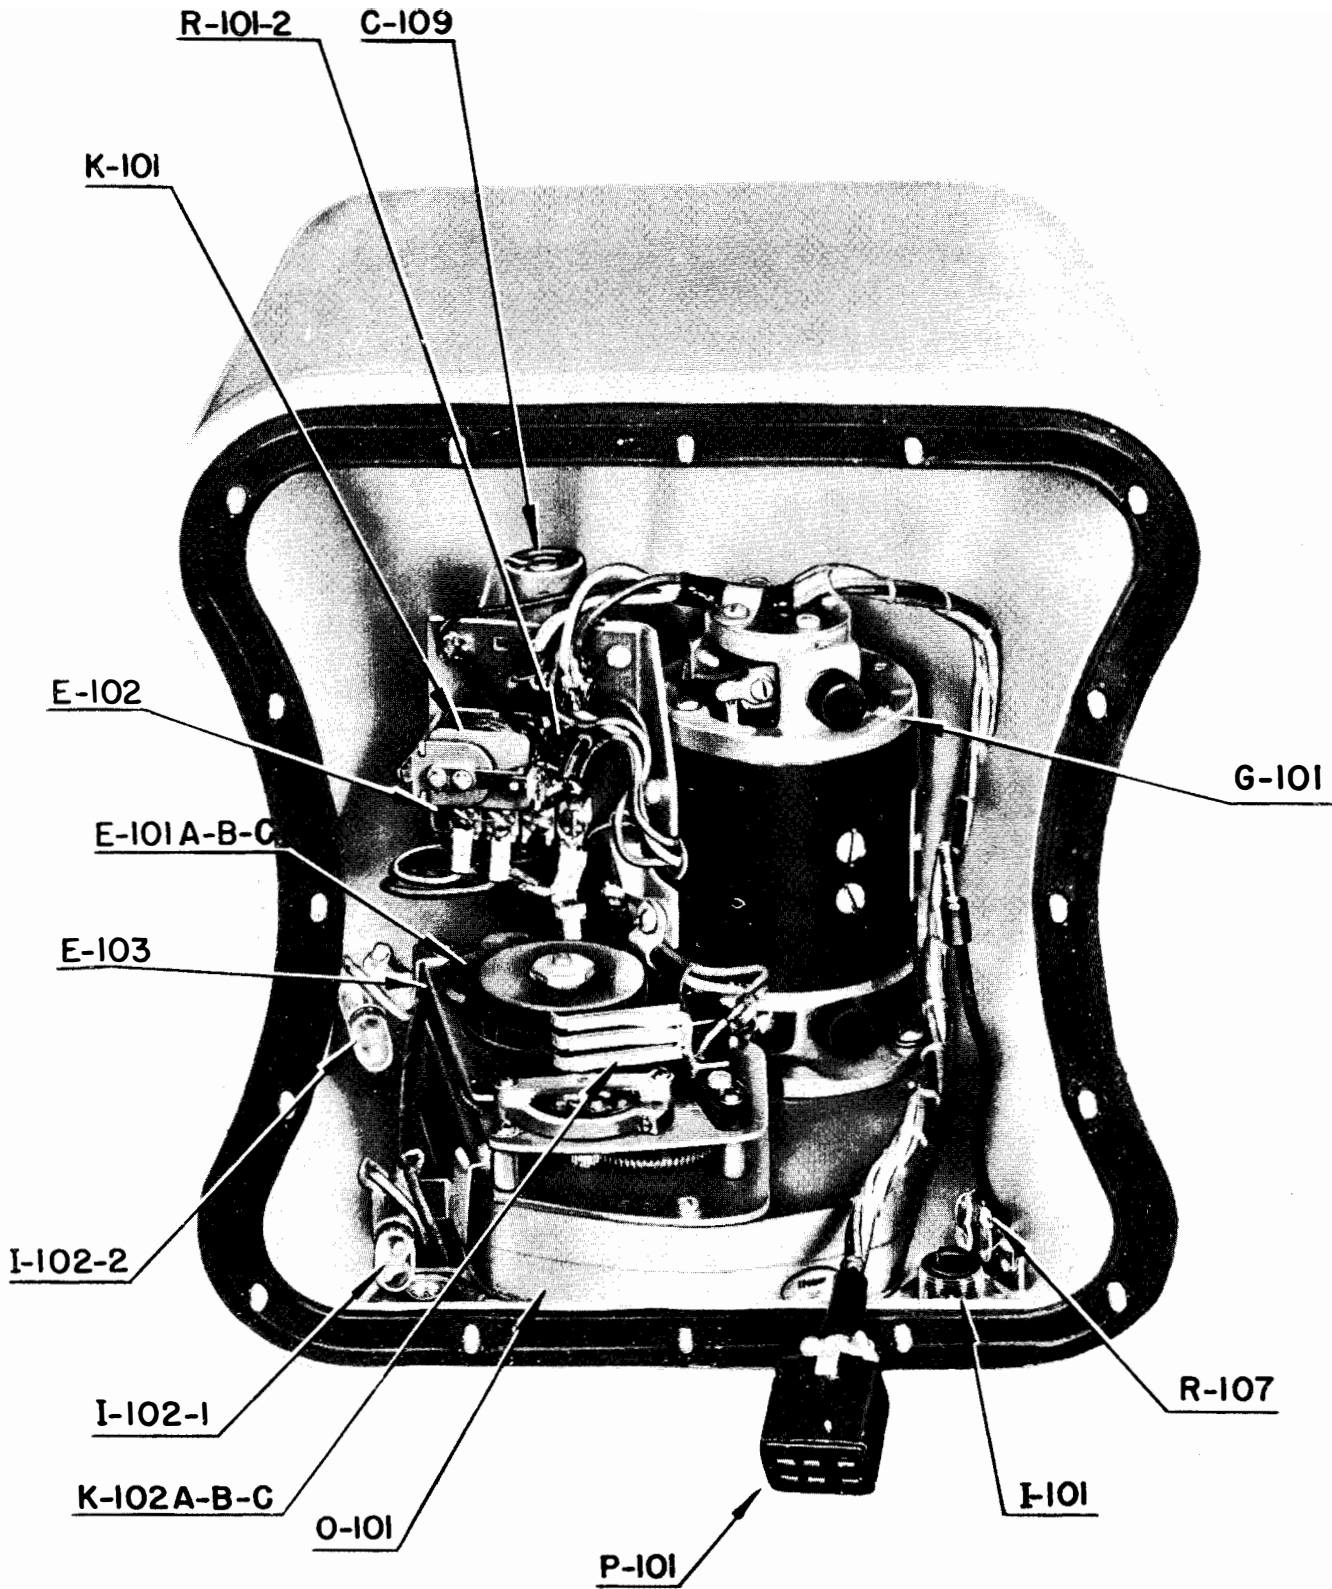

Figure 21—Radio Transmitter BC-778-B, BC-778-C, BC-778-D or BC-778-E, Parts Layout of the Cabinet
a. The crank fits into a socket in the main driving gear within the main gear-train assembly. This main driving gear actuates an assembly of two gears, which in turn drives a fourth gear. This gear train provides the step-up ratio necessary to drive generator G-101. (See figs. 21, 22 and 23.)
b. At the end of the main driving gear shaft opposite the crank socket is a second socket which fits into a projection on the clutch shaft of the governor gear-train assembly. The clutch drives the first gear by friction, and this in turn actuates (1) a gear train which provides a step-up ratio for the governor and (2) a gear which provides a step-down ratio for code wheel E-101A, E-101B and E-101C. A gear train driven by the shaft of the code wheel in turn provides a further step-down ratio for cam E-103.